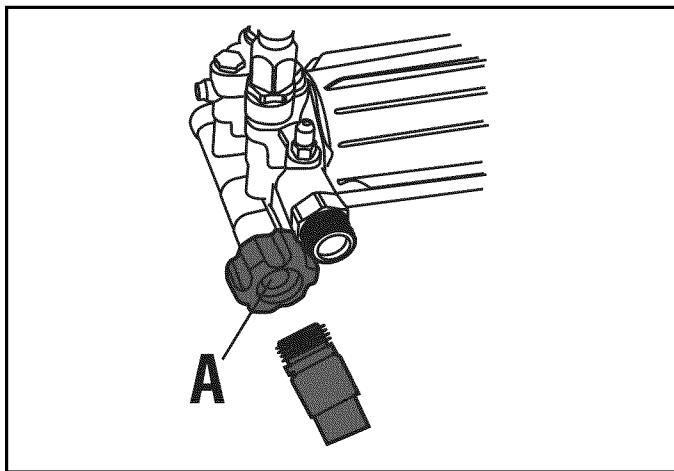

Figure 4-11. Inspect Inlet Screen
- Before connecting garden hose to water inlet, inspect inlet screen (A) (Figure 4-11). Clean screen if it contains debris or have it replaced if damaged. DO NOT run power washer if inlet screen is damaged.